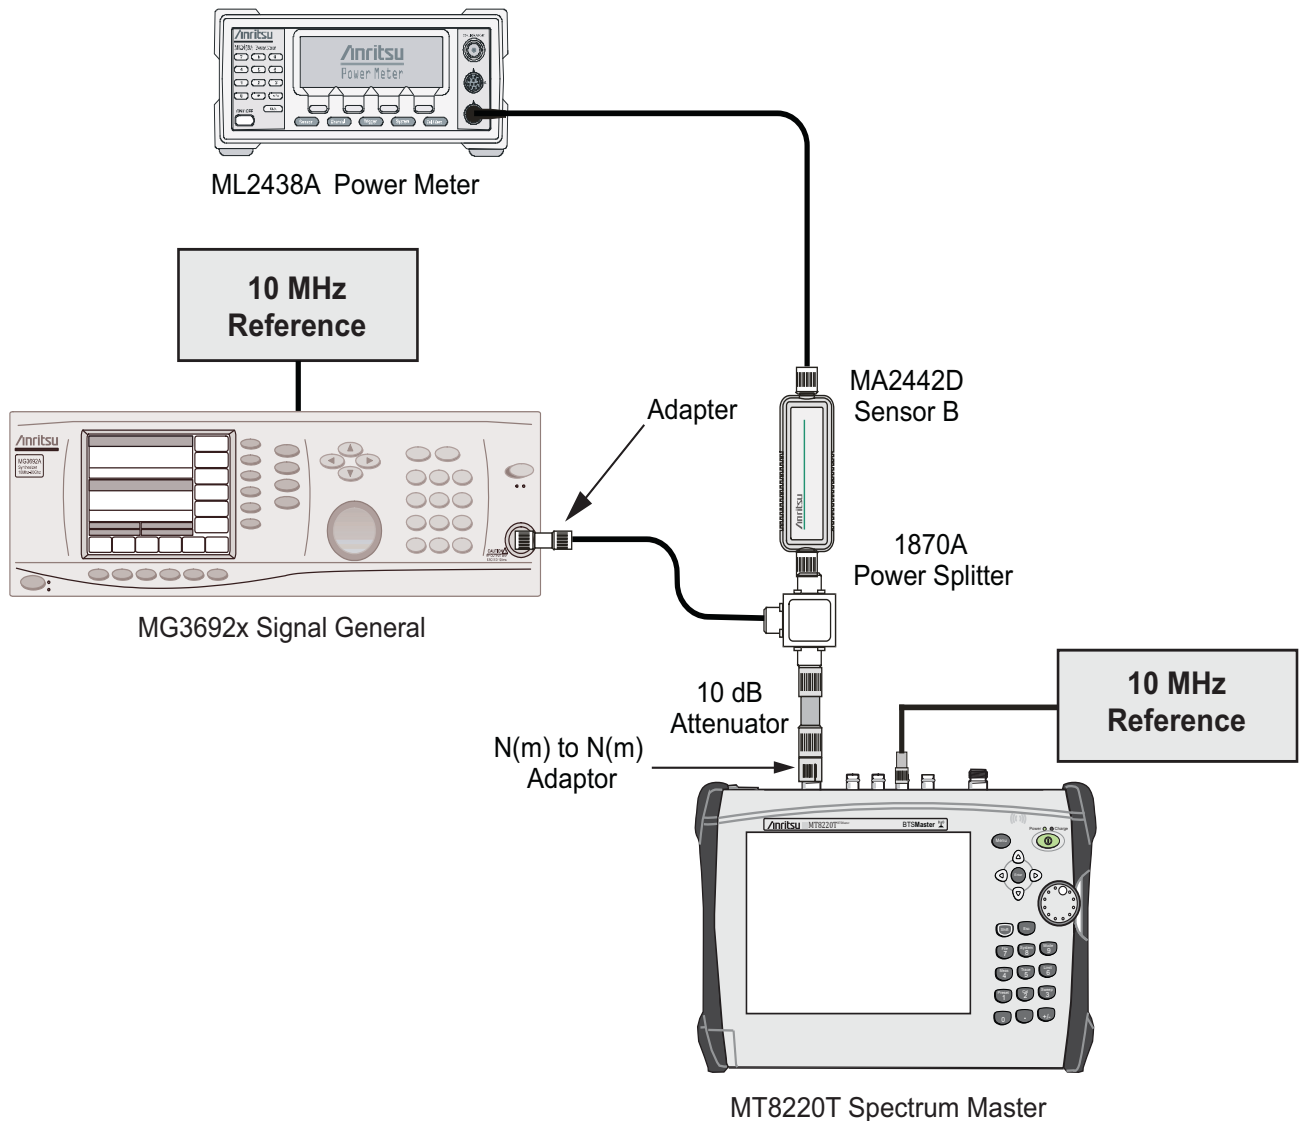

Figure 2-2. Absolute Amplitude Accuracy Verification Test Setup
1. Remove Sensor A, add the adapter and connect it to the Spectrum Analyzer RF In connector of the MT8220T BTS Master as shown in Figure 2-2.